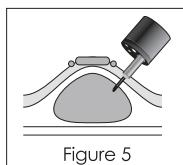

Figure 5
4. Thoroughly press the handle to limit position, so the needle tip extends out of the outer sheath. Advance the needle into the mucosa, then using the attached syringe perform the injection as required (Refer to Figure 5).